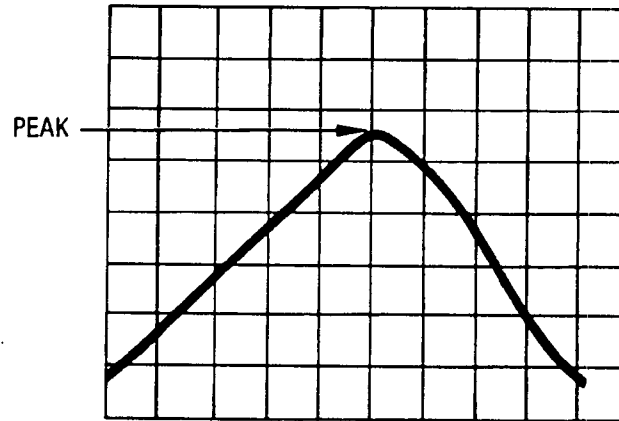

Figure 5-22. Optimum YTM Response
- c. YTM tuning is adjusted by centering the YTM response peak on the oscilloscope display (see figure 5-22). Adjustments are made at the highest and lowest frequency in each band. In addition, band 3 and 4 are adjusted at "breakpoints" to correct for tracking deviation at the higher frequencies.
- e. Adjust A1A7R69 (B1 LO) to center YIG Tuned Multiplier passband response horizontally on oscilloscope display (see figure 5-22).